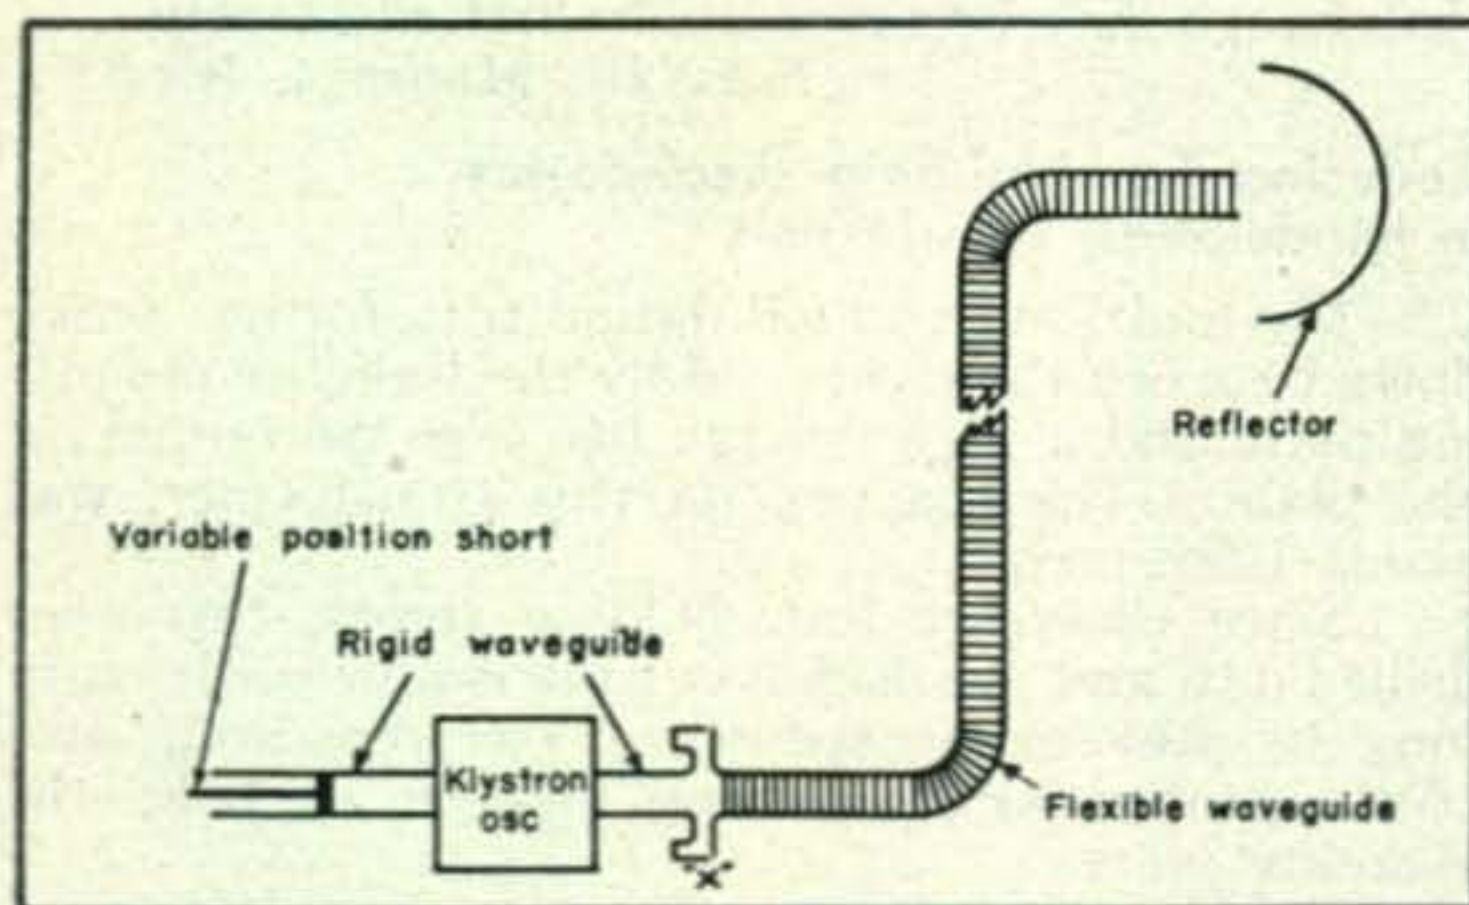
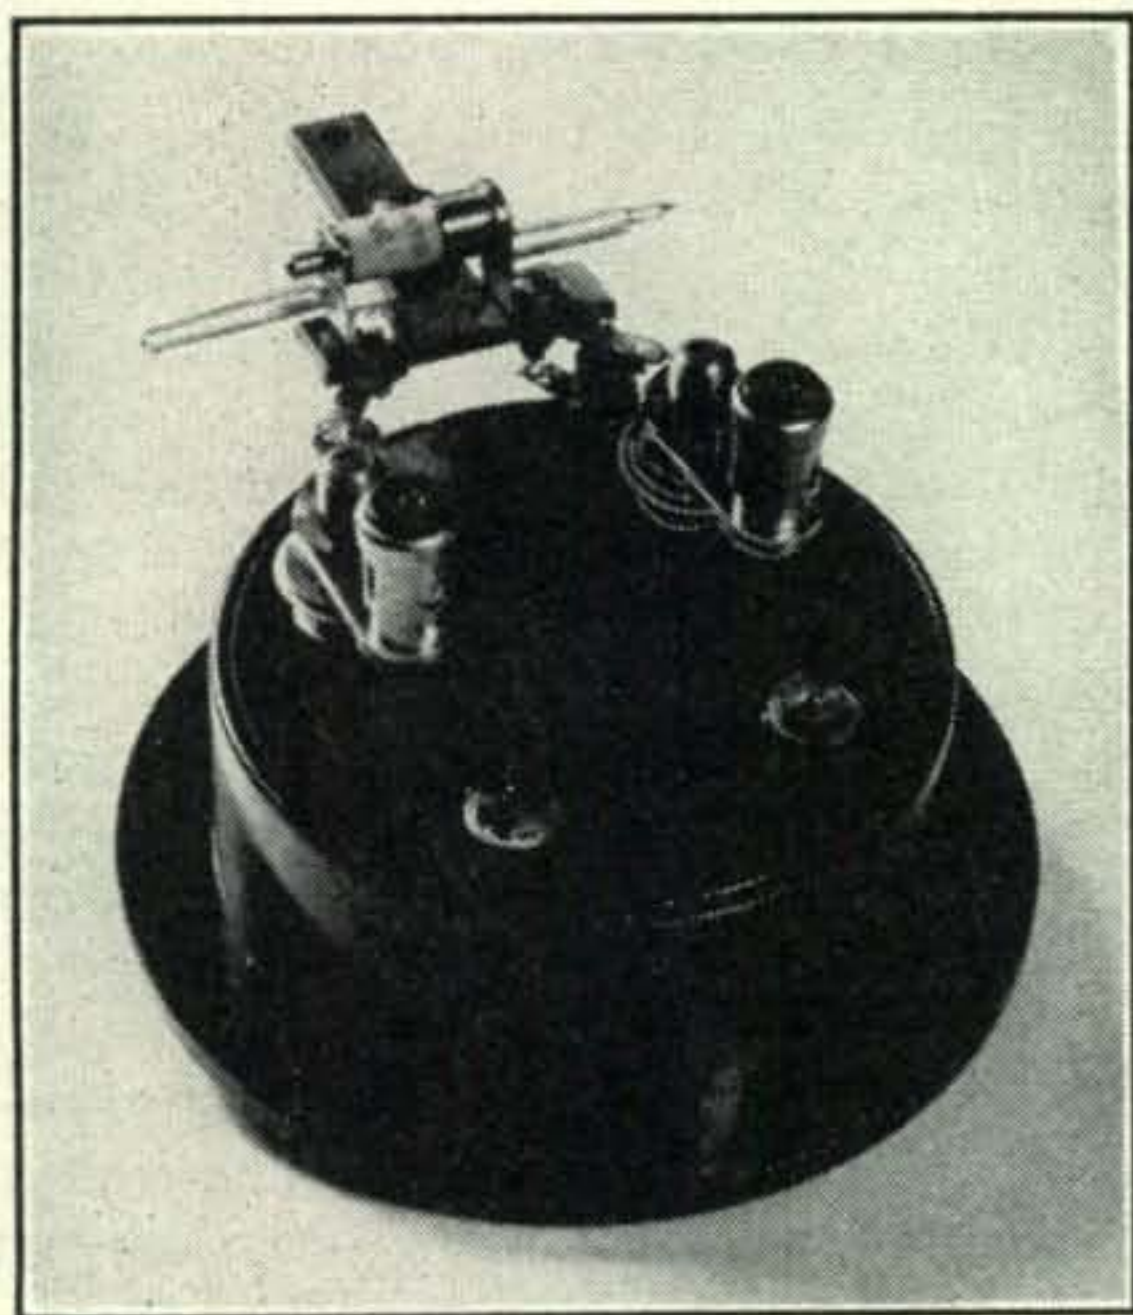

Fig. 1. Schematic of a simple oscillator circuit with flexible waveguide fed "dish."
Fig. 2. Microwave version of field strength meter which can be held or mounted near open waveguide line, horn or antenna to indicate output.
Let us assume our amateur microwave worker is planning to construct a simple modulated oscillator using a low-power klystron tube, the output of which will be eventually connected to a flexible waveguide which will feed some type of a parabolic antenna as indicated in Fig. 1. One means to indicate if the oscillator is functioning is to break the waveguide line at the point where the flexible waveguide connects to the rigid ("X" in Fig. 1). If there is r-f energy being radiated from the open end of the rigid waveguide it may be detected by placing the field strength meter, as shown in Fig. 2, a few inches away from the opened waveguide with the doublet elements perpendicular to the wide dimension of the waveguide. As shown in the photograph, the field strength meter consists of a micro-ammeter with a range of 0-20 or 0-50, for example, across which is connected a type 1N21 or 1N23 crystal. Soldered to the crystal contacts are two inserts from coaxial cable fittings which are utilized in two ways: (1) as half-wave doublet elements for picking up energy when the device is used as a field strength meter for free space microwave measurements, and, (2) for attaching to coaxial fittings connected to cables or to a probe in a waveguide, as shown in Fig. 3, for the purpose of indicating r.f. in the guide.